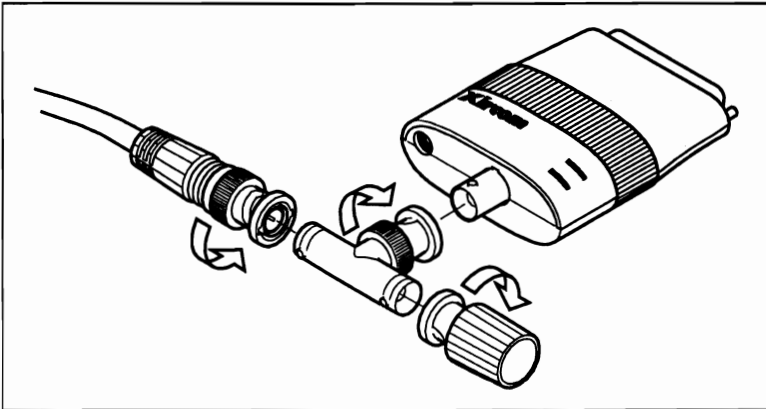
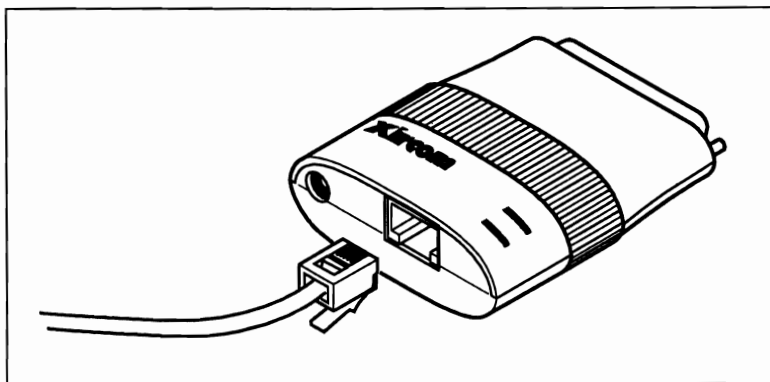

Figure 2. Attaching the Thin Ethernet Cable to Model PE3-10B2 (end of network segment)
Figure 3. Attaching Twisted Pair Cabling to Model PE3-10BT
1. Attach the T connector (and thin Ethernet network cabling) to the BNC connector on the Pocket Ethernet Adapter III as shown in Figure 2. If the Adapter is located at the end of a cable segment, attach a 50-ohm terminator to the open end of the T connector, as shown in Figure 2.
1. Plug one end of the modular data cable into the mating connector on the Pocket Ethernet Adapter III, as shown in Figure 3.
- Follow the installation instructions for Model PE3-10B2 if you are connecting to a thin Ethernet network (see Figure 2), or the instructions for Model PE3-10BT for connection to a 10BASE-T network (see Figure 3).